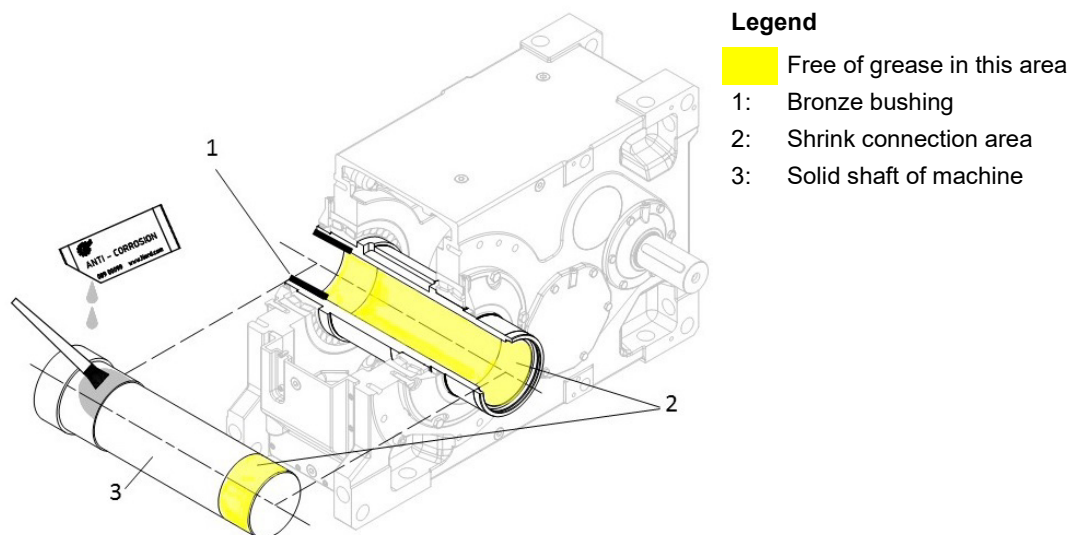

Figure 14: Machine shaft assembly for special hollow shafts with shrink discs
4. For a special hollow shaft with bronze bushing, grease the solid shaft of the machine in the area which will later come into contact with the bushing in the hollow shaft (Figure 14). Do not grease the bronze bushing. It is essential that the tensioning seat of the hollow shaft is free of grease.